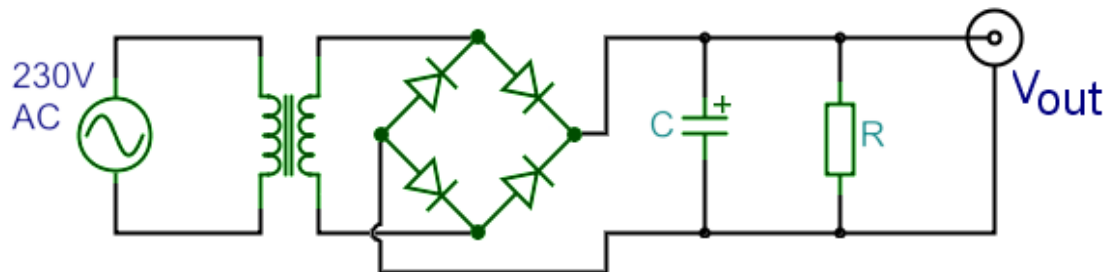

Figure 2.5 Graetz-type full-wave rectifier
2.4.1 Build the circuit of **figure 2.5**. Connect V_{out} to the scope. For ease of construction, an integrated Graetz package (containing the four diodes) is available, which has four pins, corresponding to the four nodes of the circuit (the rhombus in the figure). The positive output is noted with a + sign on the top of the package, next to it is the negative output, the other two indicated with a wave (~) are the AC inputs. First don't connect the C capacitor, only the R load resistor.